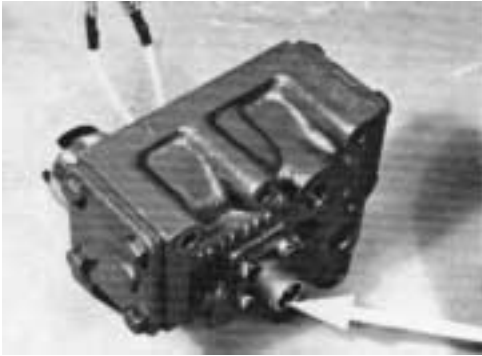

FIGURE 4-482
9. Insert the cable harness and socket into the valve body. See Figure 4-482. Install the screws into the socket and tighten.